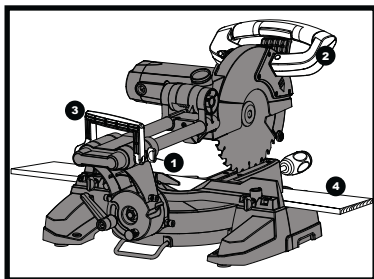

Fig 34
- 1) Unlock the carriage lock handle (1) and allow the cutting head assembly to move freely.
- 4) Grasp the switch handle (2) and pull the carriage (3) forward until the centre of the saw blade is over the front of the workpiece (4).
- 8) Release the trigger and allow the blade to stop spinning before allowing the cutting head to raise to its upper position. (See fig. 34)